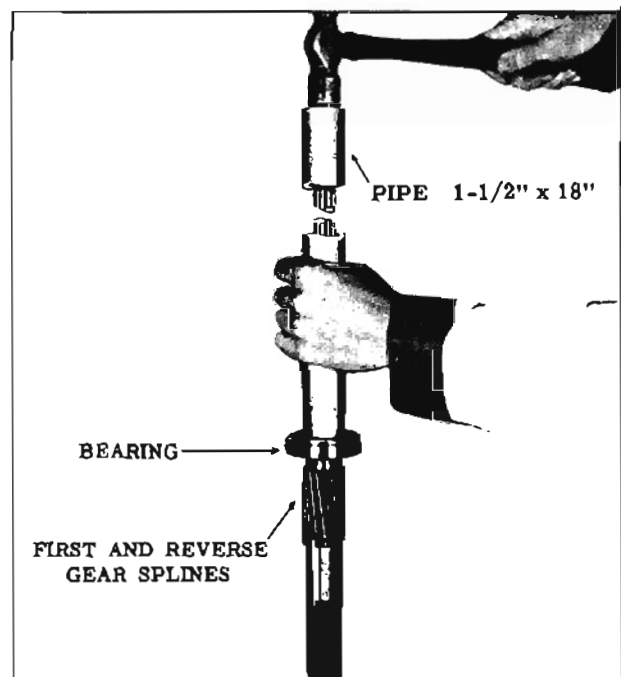

Fig. 7-25 Installing Rear Bearing
4. To assemble the parts, install the bearing on the main shaft with the shielded side toward the shoulder of the first and reverse splines on the main shaft and seat the bearing against the first and reverse gear splines on the main shaft. (Fig. 7-25)